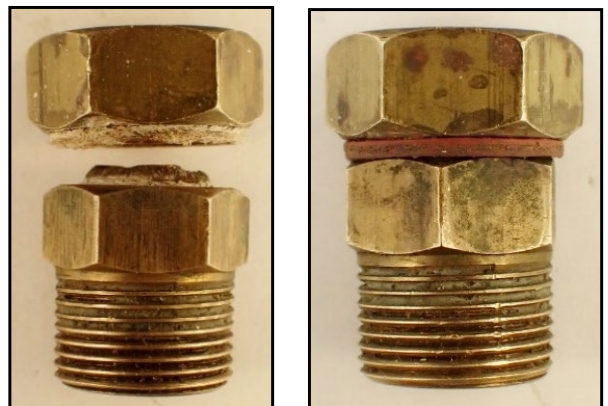

Figure 2. Leaking (fractured) fitting vs non-leaking fitting.
- The leakage had occurred due to cracking initiated at the sharp corner on the outer surface of the fitting (Figure 2).